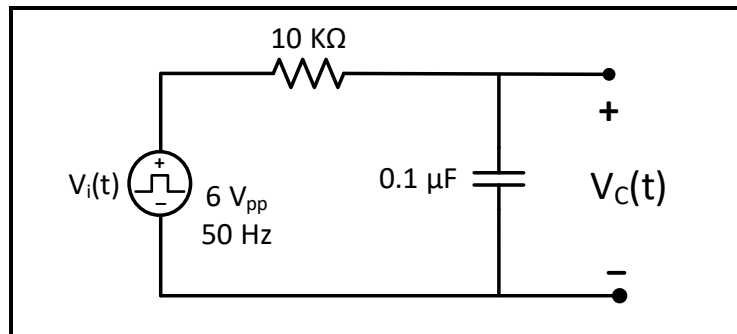

Figure 5.5
For the circuit of Figure 5.5:
1. Connect the circuit shown in Figure 5.5, with the function generator set to produce a square wave of: $V_{in} = 6\text{ V}_{pp}$, $f = 50\text{ Hz}$, and DC offset 3 V.